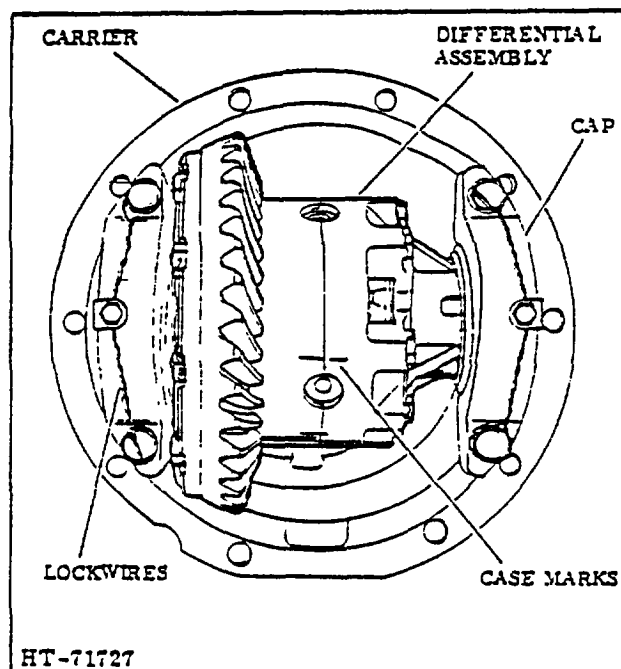

Figure 14. Differential and Carrier Assembly
The differential case and carrier consists of two parts, the carrier assembly and the differential assembly. (See Figure 14.) The carrier assembly is mounted at the center of the drive unit housing (See Figure 2) and encloses the pinion gear from the drive shaft. The bevel ring gear is bolted to the differential case and the case in turn houses the spider gears.
9. Mark the bearing caps and differential housing (Figure 14) to aid in proper alignment during reassembly; then remove the lockwire securing capscrews, cotter pins and the retaining bearing caps.